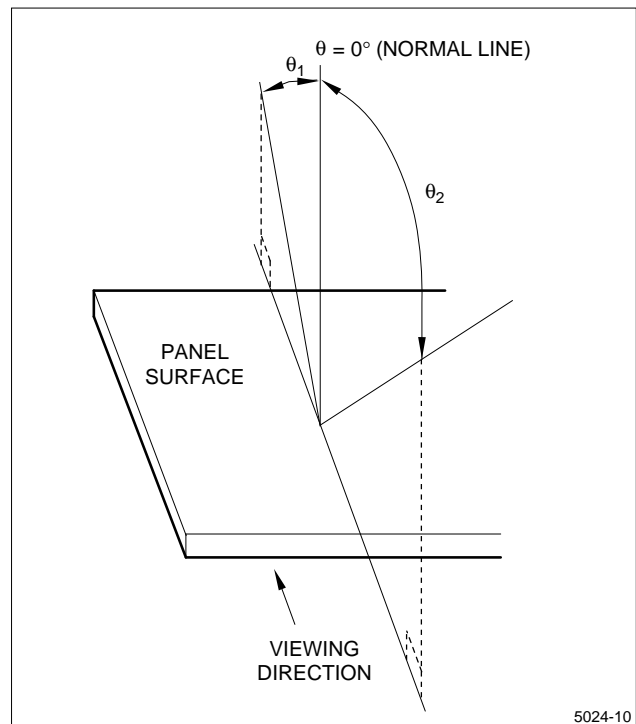

Figure 10. Dot Matrix LCD Viewing Angle
- Industrial (Mechanical) design of the product in which this LCD unit is incorporated must be made so that the viewing angle characteristics of the LCD are optimized. This unit's viewing angle is illustrated in Figure 10 and as follows: